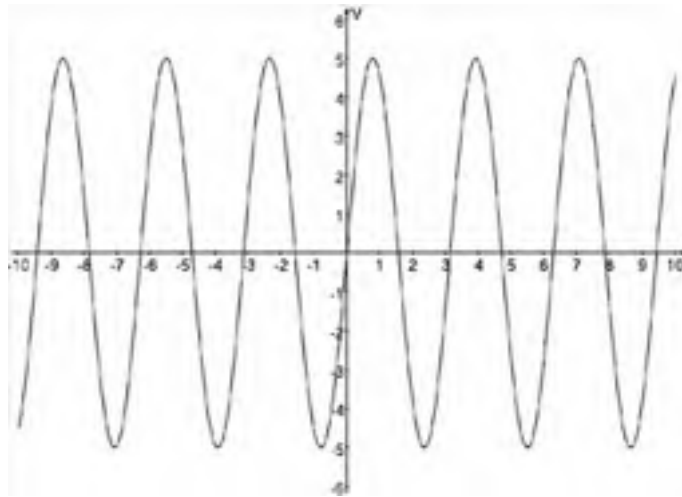
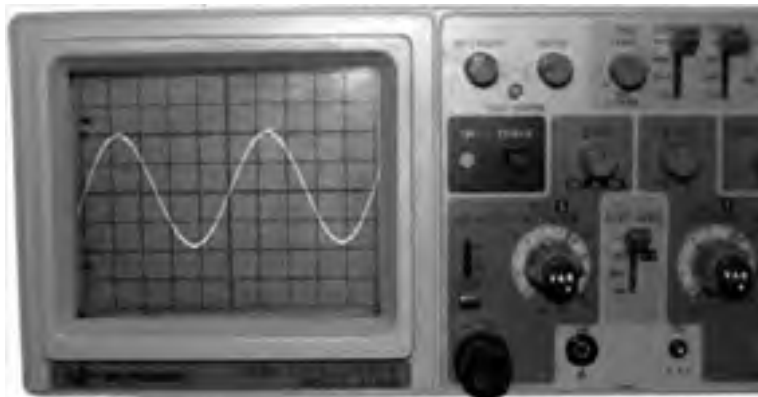

Fig. 10-2. 5-volt sinusoidal signal.
Fig. 10-4. Oscilloscope.
Simple DC has its place, but most circuits are going to involve changes in their current and voltage. The stereotypical changing current, or *alternating current (AC)*, is the sine wave (Fig. 10-2). The sine is the most efficient *waveform* for power transmission. The electricity in your walls is in this shape.
Measuring resistance is done with an inexpensive multimeter, like the one shown in Chapter 5. That same meter does a fine job of measuring DC voltage and AC RMS voltage. What it won't do is give a picture of the voltage levels over time. A far more expensive tool does this, the *oscilloscope* (Fig. 10-4).
Where calculated diagrams like Figs. 10-2 and 10-3 can show us the math and the theory of the circuit, oscilloscopes show us a representation of what is actually happening. They are invaluable tools for the electronics workbench, with their only downside being their price. A basic oscilloscope like the one pictured in Fig. 10-4 costs \$400 or so, with the better models starting at \$1,000 and the best models costing as much as a small car.